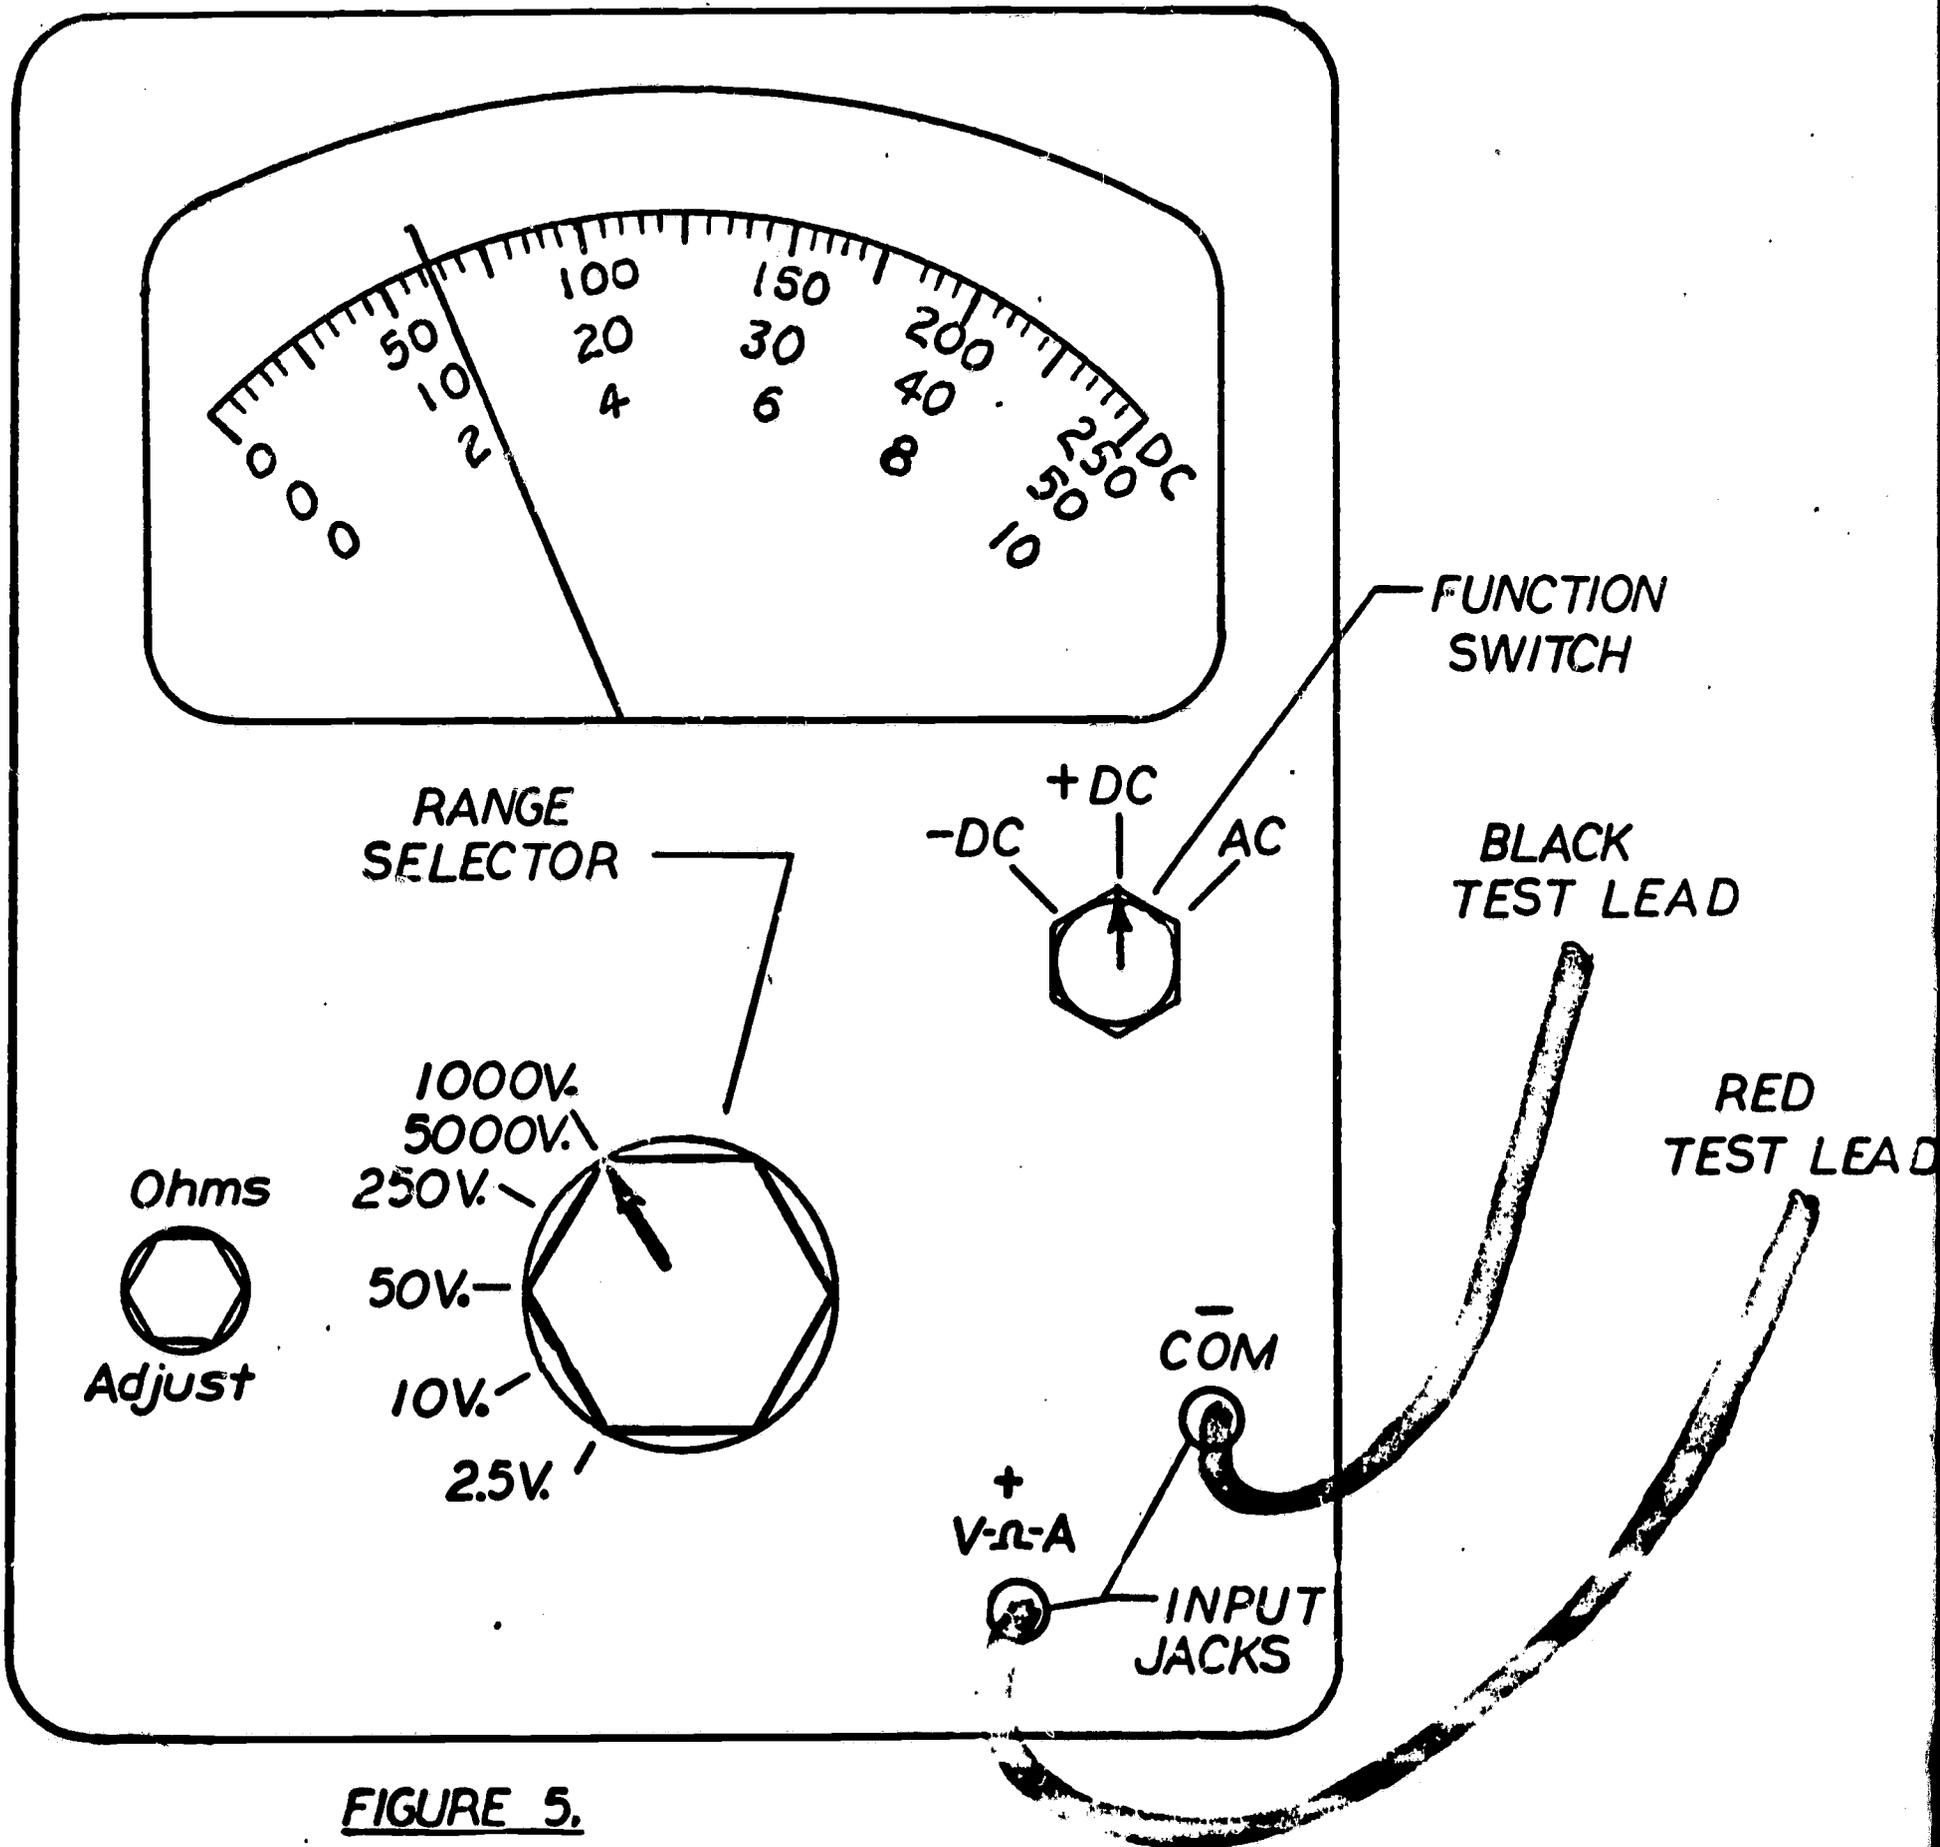

FIGURE 5.
6. Insert the TEST LEADS in the proper INPUT JACKS on the VOM (see figure 5). The RED TEST LEAD belongs in the INPUT JACK marked (+) or (V- Ω -A) or (+DC). The BLACK TEST LEAD belongs in the INPUT JACK marked (-) or (COMMON) or (COM).
7. Set the RANGE SELECTOR on the VOM to the highest Direct Current (D.C.) voltage range. Usually this range is marked 1000V/5000V, (see figure 5).
8. If your VOM has a FUNCTION SWITCH (see figure 5), set it to the (+DC) position.